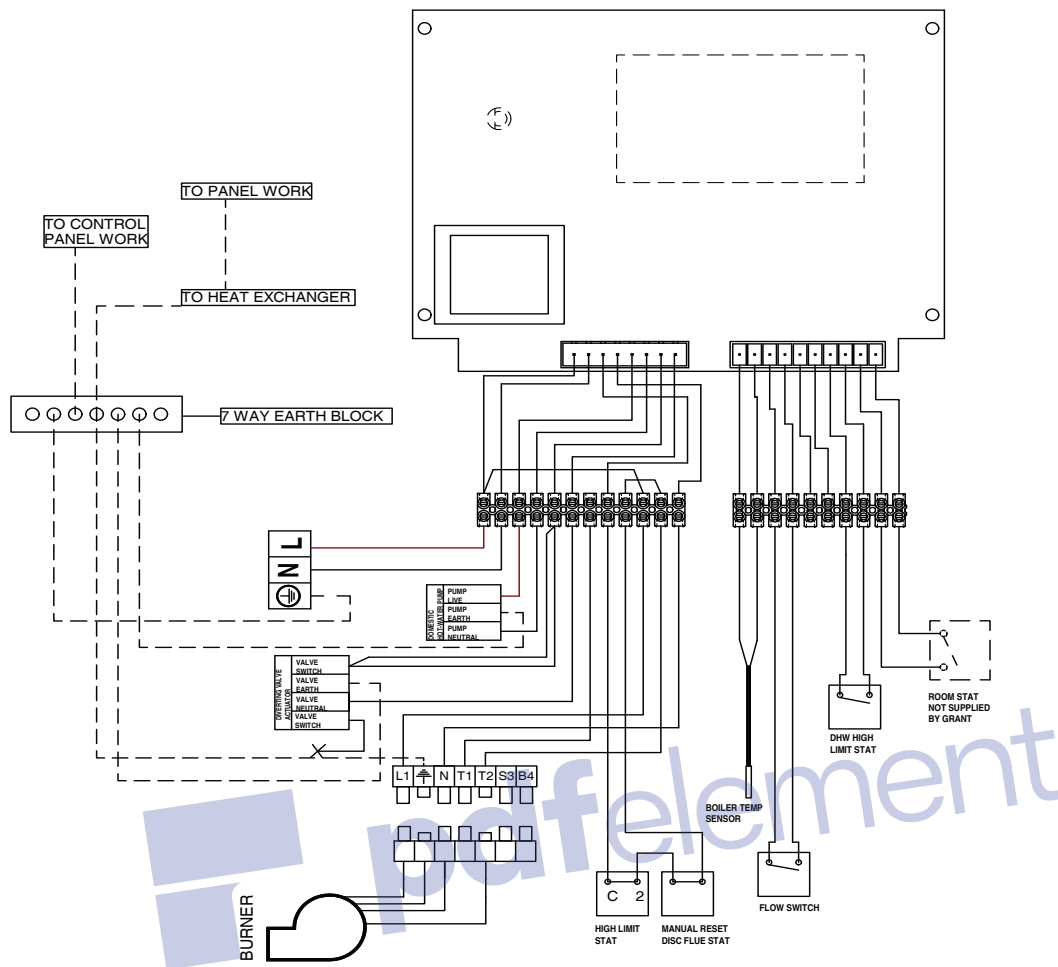

Figure 8-1: Control system diagram
Refer to Figures 8-1 and 8-2 for typical control system wiring diagrams for all models.
Refer to Figures 8-1 for typical control system wiring diagram.
1. Make the remaining required connections to the control panel, as detailed in Figures 8-1 and 8-2.
Refer to Figures 8-1 and 8-2 (as appropriate) for connection details.